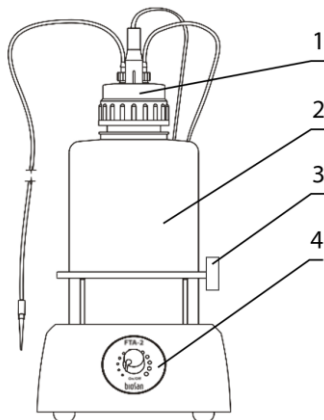

Figure 3. FTA-2i front view
- Install the trapping flask (fig. 3/2) on the unit.
- Screw on the lid with the sensor needles and valves for tubing (fig. 3/1) to trapping flask.
- Place the microtubes for aspiration tip into the holder (fig. 3/3).
- 4.4.1. **Optional MA-8 aspiration tip installation.** Remove microtubes and aspiration tip from the holder (fig. 3/3). Remove the aspiration tip (fig. 5/1) from the **MA-U** adapter and connect the **MA-8** aspiration tip (fig. 8/1A).
- 5.3. (For model **FTA-2i**) Regulate the aspiration intensity with the regulator knob on the front panel of the unit (fig. 3/4). Clockwise turning direction increases power, counter clockwise – decreases. Current intensity is indicated by a light ring around the regulator knob.